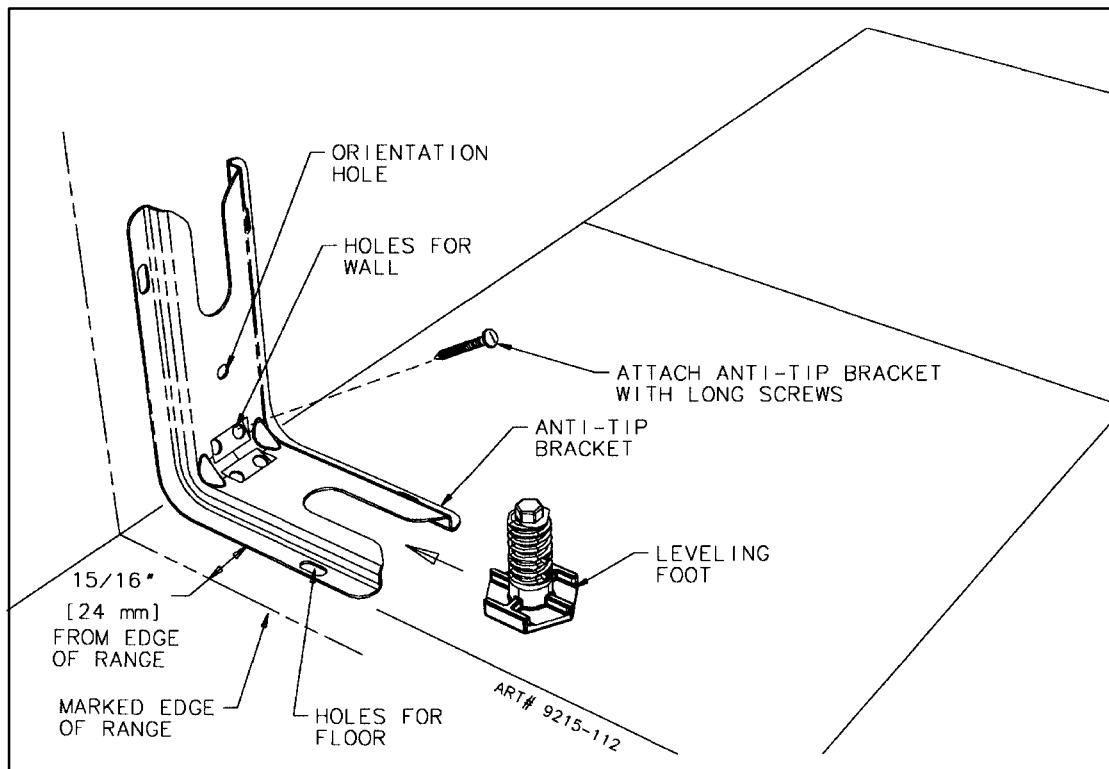
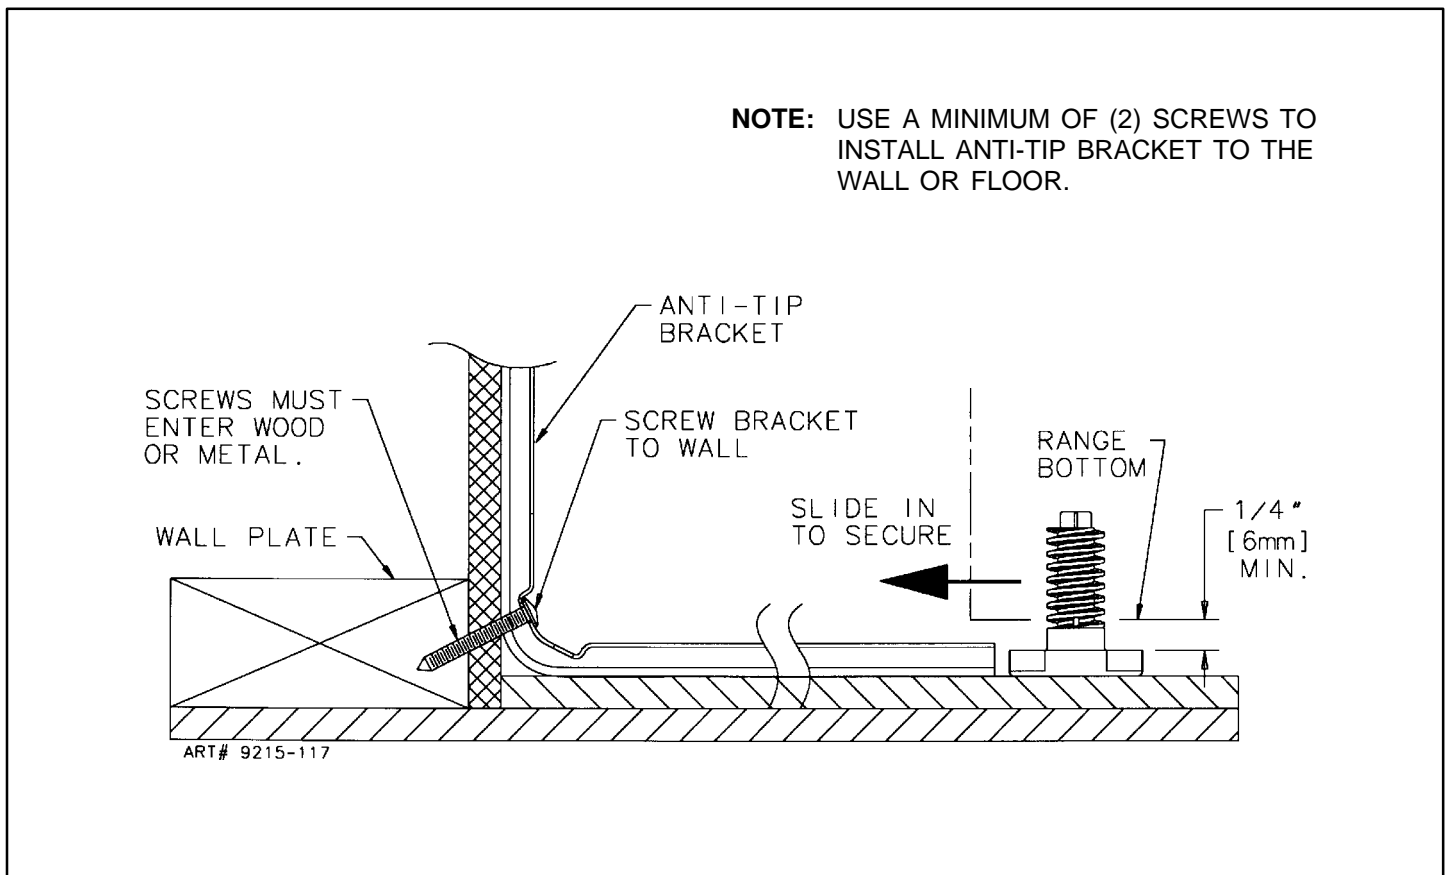

FIGURE 3
FIGURE 4
## STEP 1 - Locating The Bracket (See Figure 3)
- B. Place the BRACKET  $15/16"$  (24 mm) from the marked "EDGE" toward center of opening and against the back wall, as shown in figure 3, with orientation hole against wall.
- C. Use the bracket as a template and mark the required holes, as shown in figure 3 for the type of construction you will be using.
1. Floor: Locate the center of the two holes identified in figure 3 as "HOLES FOR FLOOR". Drill a  $1/8"$  (3 mm) pilot hole in the center of each hole (a nail or awl may be used if a drill is not available). Secure the ANTI-TIP bracket to the floor with the two screws provided. Proceed to Step 3.
2. Wall: Locate the center of the two holes identified in figure 3 as "HOLES FOR WALL". Drill an angled  $1/8"$  (3 mm) pilot hole in the center of each hole as shown in figure 4. (A nail or awl may be used if a drill is not available). Secure the ANTI-TIP bracket to the wall with the two screws provided as shown in figure 4. Proceed to STEP 3.
1. Suitable screws for concrete construction can be obtained at the hardware store. Drill the required size hole for the hardware obtained into the concrete at the center of the holes identified in figure 3 as "HOLES FOR FLOOR". Secure the ANTI-TIP bracket to the floor. Proceed to STEP 3.
- B. Align the range to its designated location and slide it back into position. Note: A minimum clearance of 1/4" (6 mm) is required between the range and the leveling foot that will engage the ANTI-TIP bracket, see figure 4.